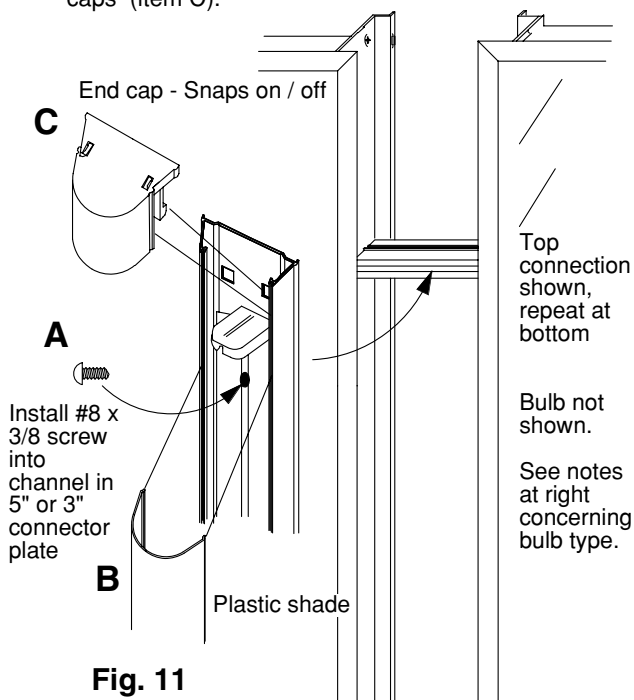

Fig. 11
3. Once the fixture is wired attach the fixture with the 2 #8 x 3/8 screw as shown Fig. 11, item A.